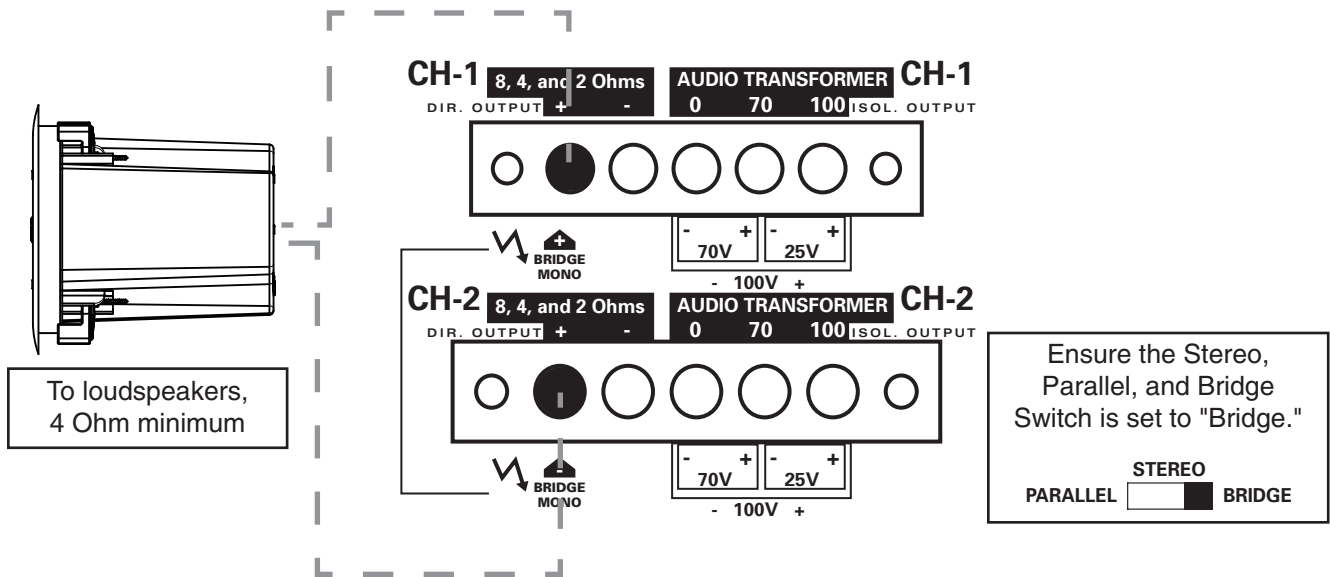

Figure 7
- **Bridge** - When the switch is in this position, connect your mono input signal to channel one **ONLY**. The speaker load is connected across the two positive terminals as shown in Figure 7 on page 10. The CP700 will deliver approximately twice the voltage across the load. Please observe the minimum load specification when operating in Bridge mode.
With the CP700 turned OFF, move the rear mounted selector switch to the "Bridge" position and connect the input signal to channel one. Connect your speaker load (4 and 8 Ohm only) across the "+" terminals of both channels, with channel one being positive (Figure 7).